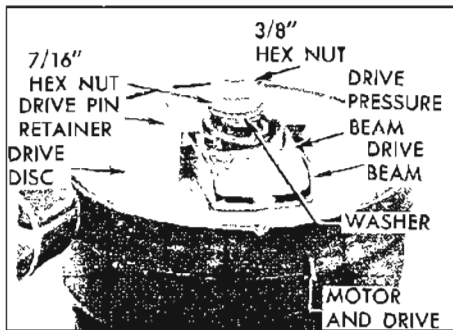

Figure 11-16—Antenna Drive
11. Hold the 7/16 inch hex nut on the output gear assembly shaft, remove the 3/8 inch hex nut (see Figure 11-16).